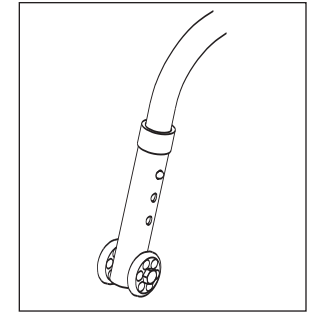

Figure 15
3. Adjusting Anti-Tip Tube Wheel (Fig. 15)